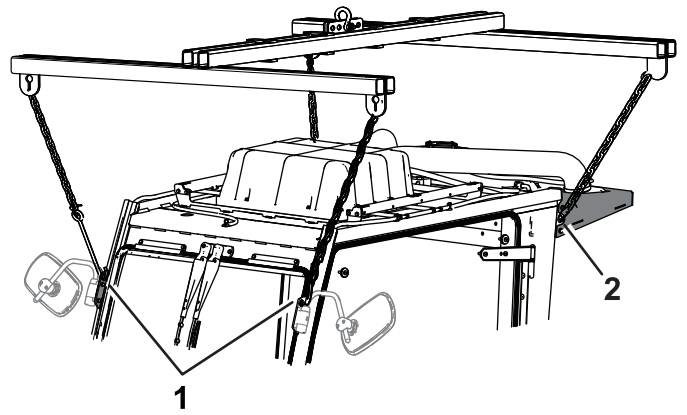

Figure 12
3. Use a hoist to support the cab and connect the cab hoist to the 4 lift points on the cab (Figure 12).
4. Raise the cab with a hoist (Figure 12).